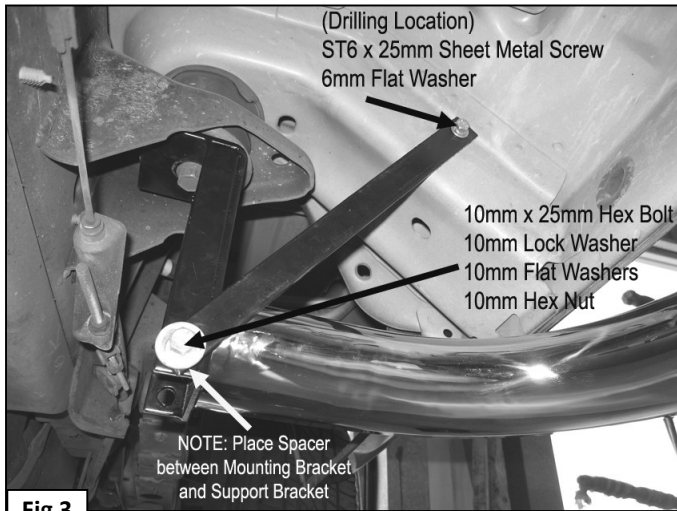

Fig 3
6. Partially attach one of the rear Support Brackets to the front side of the rear Mounting Bracket using the included (1) 10mm x 25mm Hex Head Bolt, (1) 10mm Lock Washer, (2) 10mm Flat Washers, and (1) 10mm Hex Nut **(Figure 3)**. **NOTE:** Larger hole in the Support Bracket mounts to the Mounting Bracket. If you are installing the 4" Oval Sidebar, place the included Square Spacer between the Mounting Bracket and the Support Bracket to compensate for the gap.
7. Extend Support Bracket upwards to the body channel, and use the smaller hole in the Support Bracket as a template to mark the drilling location in the body channel **(Figure 3)**.
9. Once you have drilled the hole in the body channel, attach Support Bracket to previously drilled hole using the included (1) ST6 x 25mm Sheet Metal Screw and (1) 6mm Flat Washer **(Figure 3)**. Tighten at this time. **IMPORTANT!** Do not over tighten or a pull out may occur.